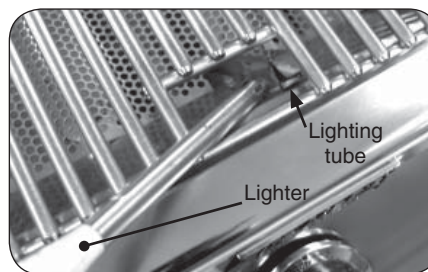

Fig. 19-2 - Manual lighting
**CAUTION:** Always wait five (5) minutes for gas to clear after any unsuccessful lighting attempt.
2. Insert either a burning long-barrel butane lighter or a burning long-stem match through the cooking grid opening to the top of the lighting tube. (Fig. 19-2). For backburners, hold the flame against the surface of the backburner. For charcoal burners, hold the flame near the burner.
4. If the burner does not light, **immediately depress the knob and turn the valve to OFF**. **WAIT FIVE (5) MINUTES** before repeating steps 2 through 4 of the MANUAL LIGHTING instructions.